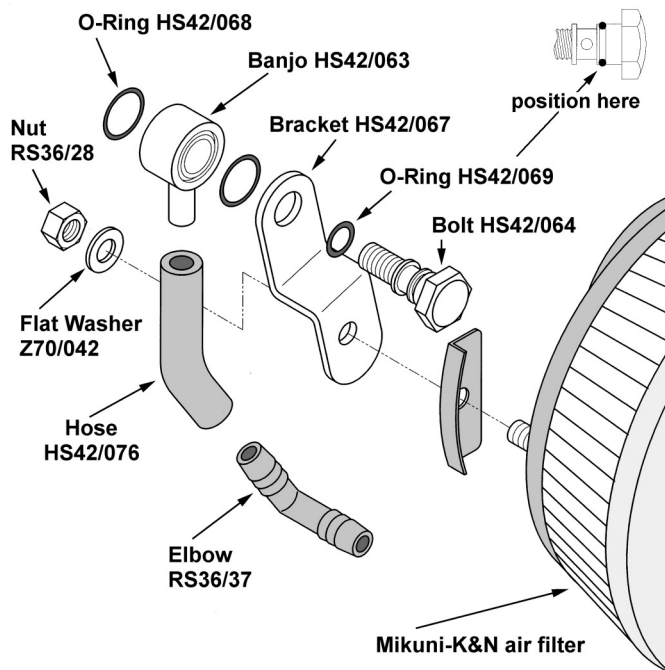

Figure 9: Twin Cam breather (KHS-030)
2. Remove the rubber stud protectors from the Mikuni air filter and place the two backing plates on the studs. Position the air filter up to the carburetor while aligning the brackets with the filter studs. Once the filter is in place, tighten the filter clamp. Then, secure the filter to the brackets with the enclosed 5/16" nuts and flat washers (see Figure 9).